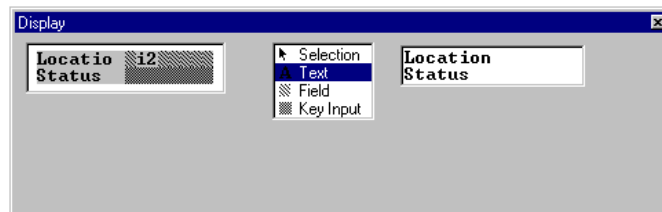

Figure 3-71 “Location” Handler Display - Location Corrected in Edit Box
60. Type an “n” at the end of **Locatio** in the edit box (Figure 3-71).